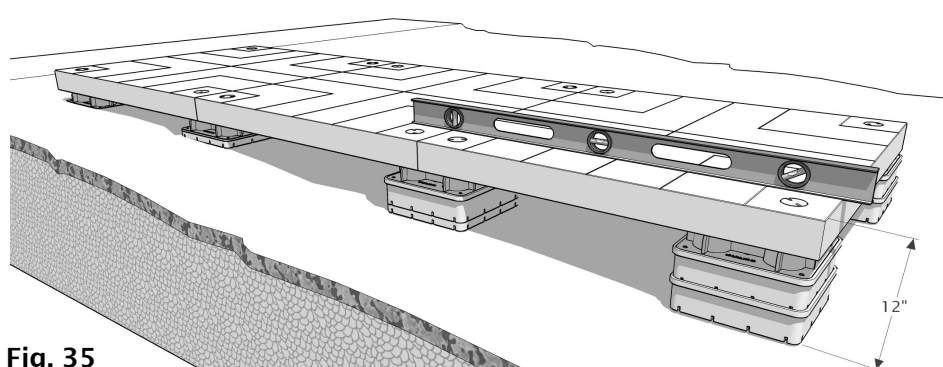

Fig. 35
16. Terrain will vary per installation sight, so careful planning and proper leveling of the entire system is required by the installer. The Patio Deck surface may not exceed 12" off grade. (Fig. 35)